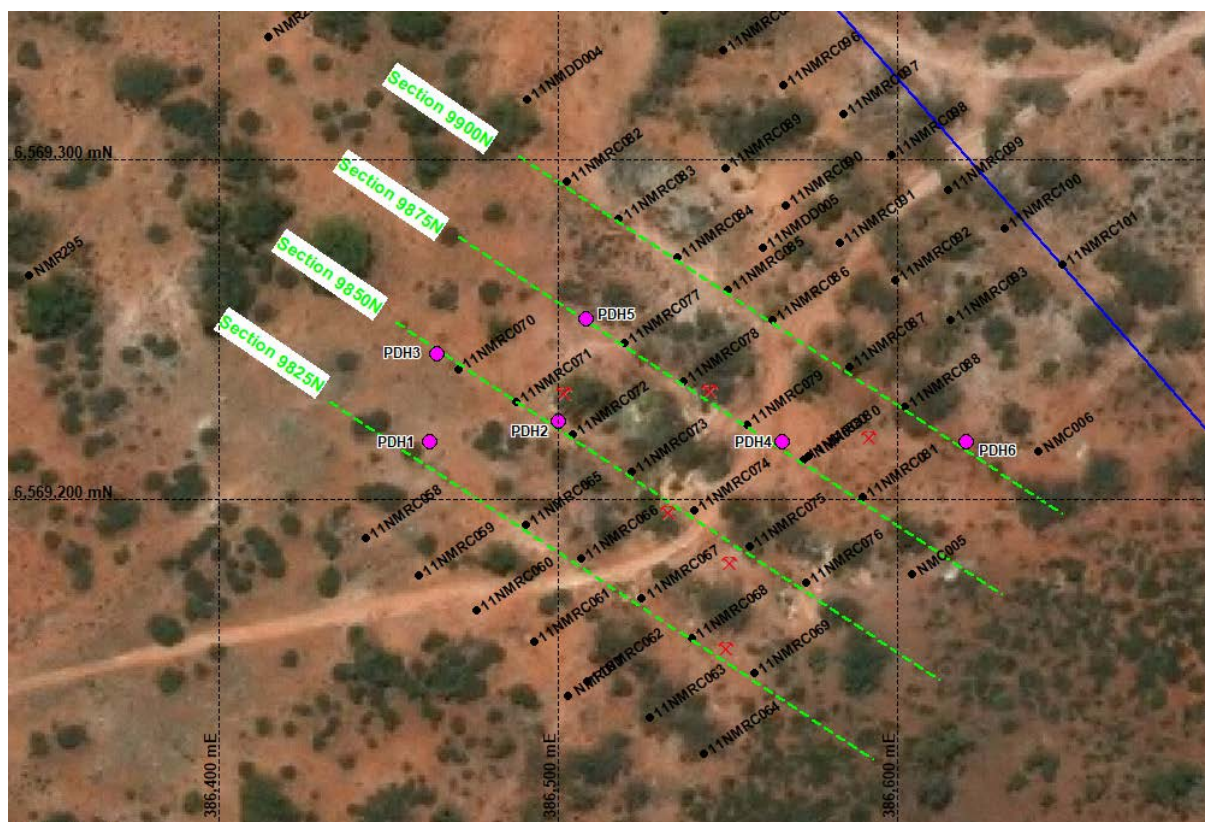

Figure 1: Location of the planned RC drill holes at the Providence Prospect.
Field mapping also indicated that the orientation of the quartz veins at Providence is primarily steep dipping to the north. The planned reverse circulation (RC) drill holes (Figure 1) are designed to test the down dip and strike extent of Au mineralisation based on existing historical drilling intercepts and current mapping.